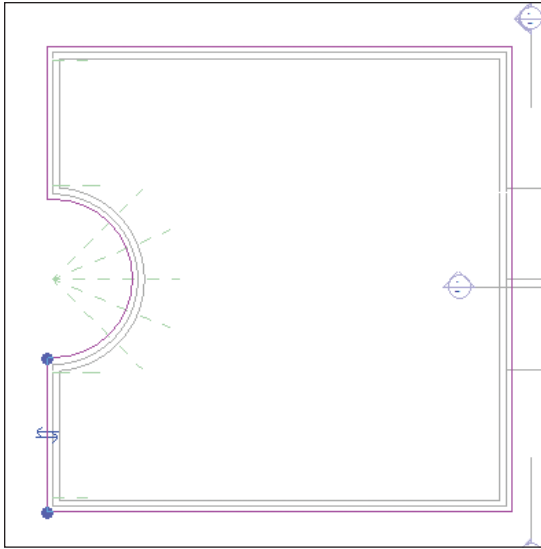

FIGURE 7.39 The perimeter of the roof is set.
11. Pick the wall. The magenta lines are completely drawn in. Your sketch should look like Figure 7.39.